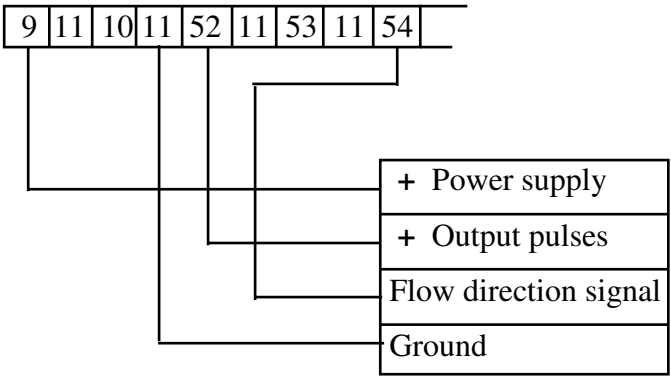

Fig.B5. Flow sensor V2 connection diagram for energy measurement algorithm “3 – winter / summer”
3. Flow sensor V2 connection diagram for energy measurement algorithm "3 – winter / summer" is presented in Fig. B5. In this case flow sensor V4 not available.